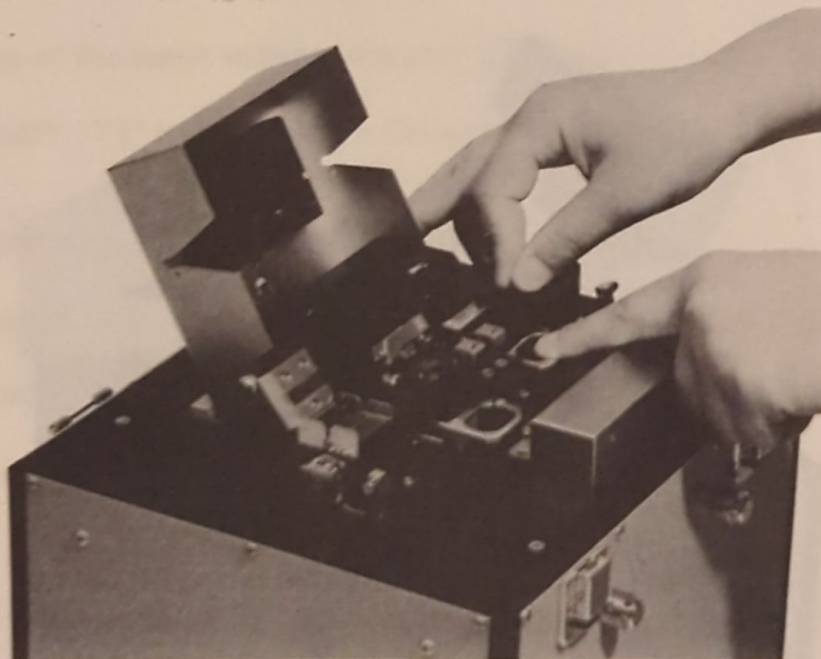

Fig. 17 Closing Clamp
- (6) Carefully push back the handle ⑭ to return it to its home position, and close the clamp ⑪. (Refer to Fig. 17)